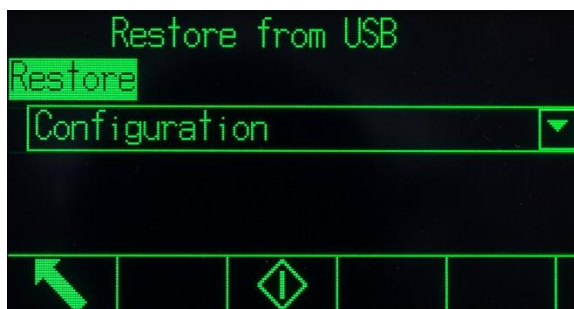

Figure 5-3: Restore from USB
3. Navigate to **Maintenance > Run > Restore from USB**. Press ENTER. The screen shown in Figure 5-3 will appear.